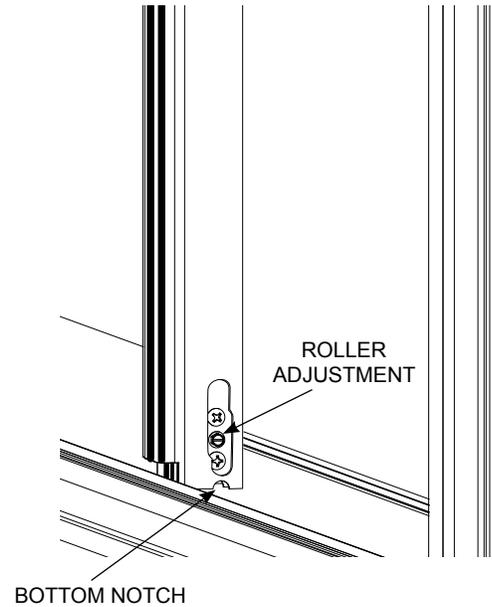

FIG. 42
2. Adjust rollers on both doors until frames are level and flush, and roll freely. (FIG. 42)